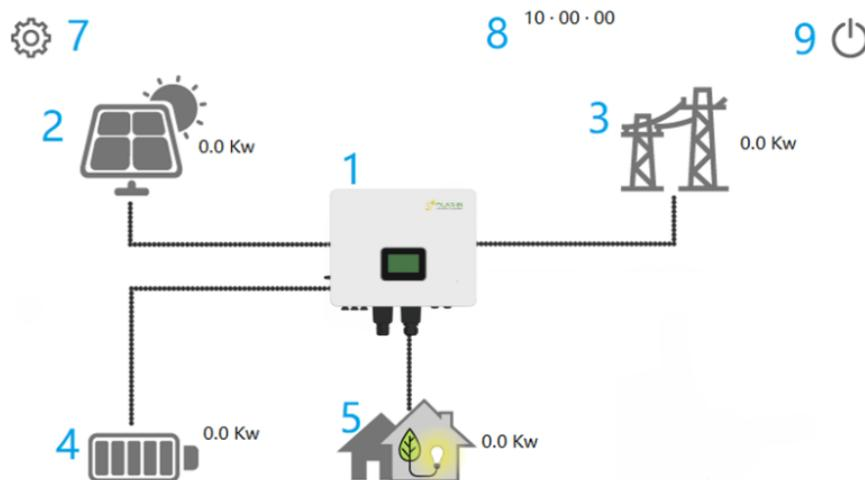

Figure 7-3
- Ensure that the DC cable is current-free via a current clamp (Figure 7-3).